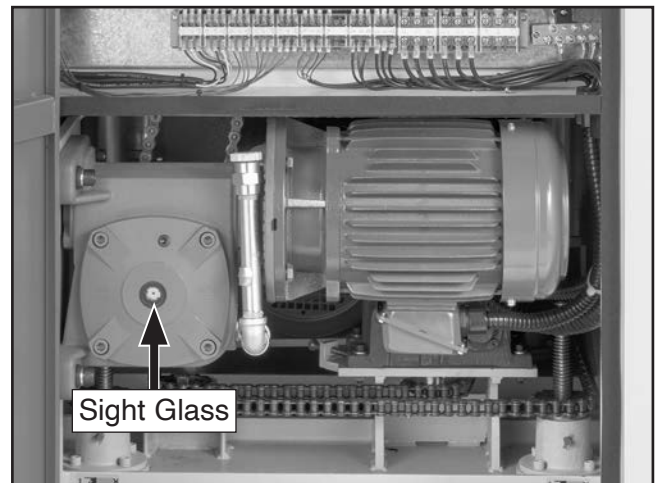

Figure 34. Location of feed motor gearbox sight glass.
2. Locate sight glass on front of gearbox (see **Figure 34**).